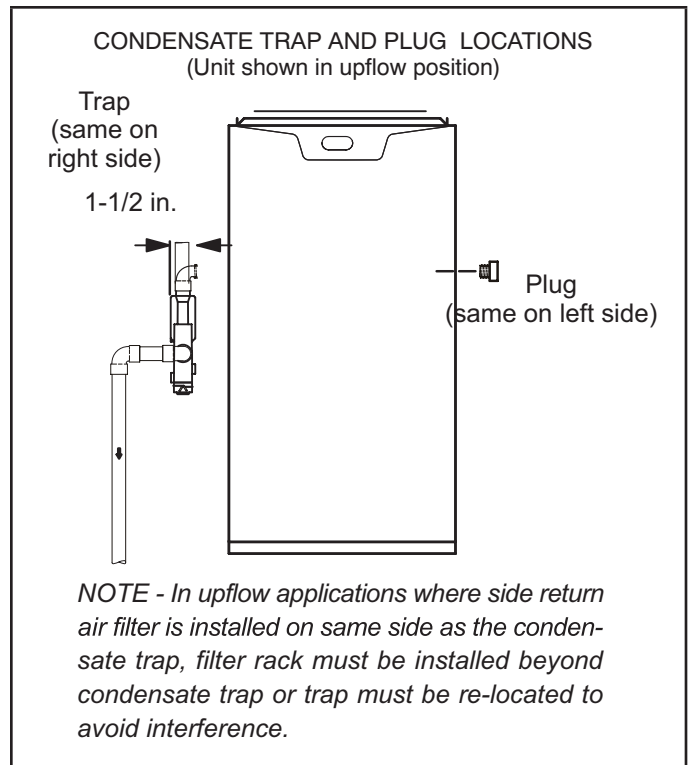
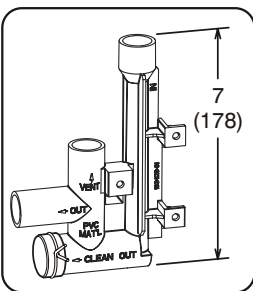

FIGURE 33
Figure 41
This unit is designed for either right- or left-side exit of condensate piping in upflow applications. In horizontal applications, the condensate trap must extend below the unit. An 8" service clearance is required for the condensate trap. Refer to figures 33 and 35 for condensate trap locations. Figure 41 shows trap assembly using 1/2" PVC or 3/4" PVC.
- 2 - Use a large flat head screw driver or a 1/2" drive socket extension and remove plug (figure 33) from the cold end header box at the appropriate location on the side of the unit. Install provided 3/4 NPT street elbow fitting into cold end header box. Use Teflon tape or appropriate pipe dope.
- 3 - Install the cap over the clean out opening at the base of the trap. Secure with clamp. See figure 41.
- 4 - Install drain trap using appropriate PVC fittings, glue all joints. Glue the provided drain trap as shown in figure 41. Route the condensate line to an open drain. Condensate line must maintain a 1/4" downward slope from the furnace to the drain.